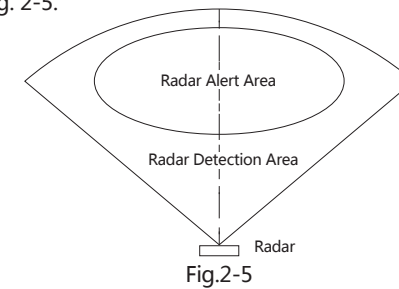

Fig.2-5
- Radar is installed in front of the detection area and aligns with the center of alert area, as shown in Fig. 2-5.